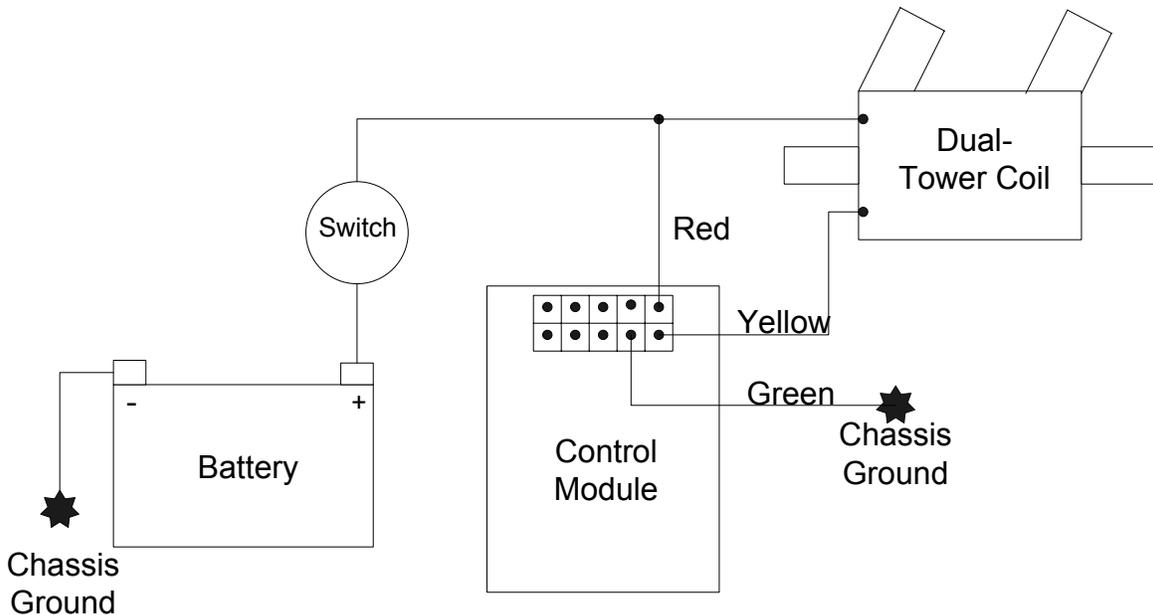

Figure 1
40. Figure 1 shows how the power wiring should look when you're done. The pickup plate and its wires are left out of the diagram for clarity – only the wires that the installer is responsible for connecting are shown. If you are unfamiliar with wiring diagrams, wires that have a “dot” at their intersection are electrically connected to one another.